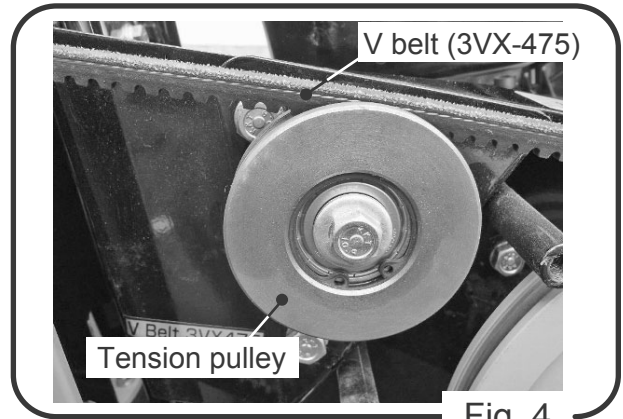
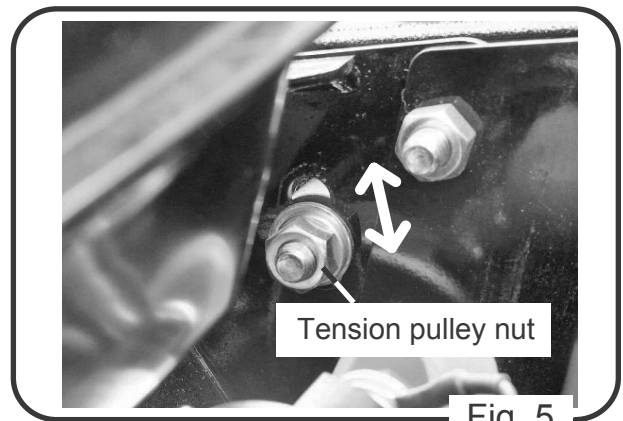

Fig. 4
Fig. 5
- C. Loosen the bolt of the tension pulley. The bolt is installed on a long hole, so after moving the pulley up and down for adjustment, tighten the bolt. (Fig. 4, Fig. 5)